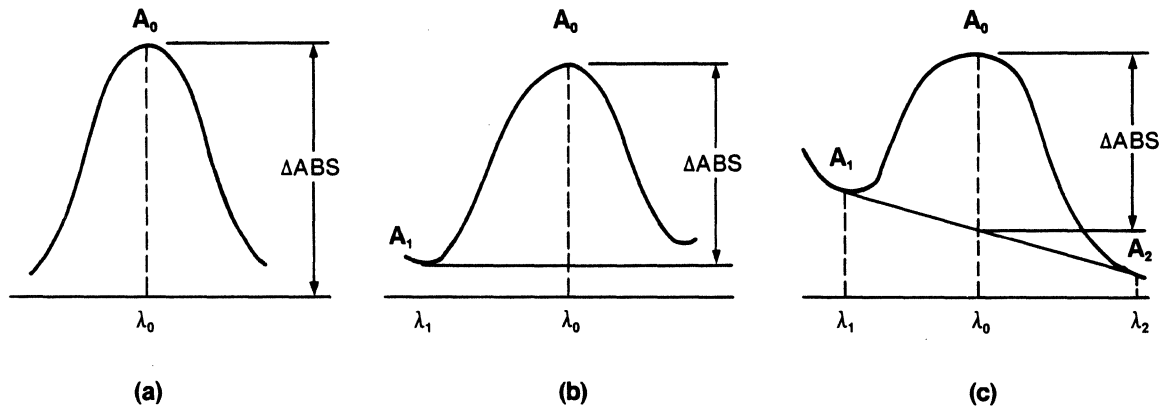

Figure 6-2. Procedures Used to Measure the Sample Absorbance (ΔABS).
Figure 6-2 illustrates the three procedures used to measure the sample absorbance, ΔABS . The appropriate procedure is selected by inspection of the sample spectrum, which can be obtained using Method 1. The three procedures are described below.
1. In Procedure 1, one wavelength (λ_0) is used. The absorbance at λ_0 is measured. In this case $\Delta\text{ABS} = A_0$. This procedure should be used when the spectral baseline is flat and near zero, as shown in Figure 6-2(a).
2. In Procedure 2, λ_0 and λ_1 are used. The absorbance at λ_1 is subtracted from the absorbance measured at λ_0 . This method is useful when the baseline is nearly flat, but non-zero (see Figure 6-2(b)). $\Delta\text{ABS} = A_0 - A_1$.
3. In Procedure 3, λ_0 , λ_1 and λ_2 are used. A tangent is drawn between λ_1 and λ_2 . ΔABS is calculated as shown in Figure 6-2. This method can be used when the baseline is sloped as shown in Figure 6-2(c). In this case, ΔABS is given by the following equation: